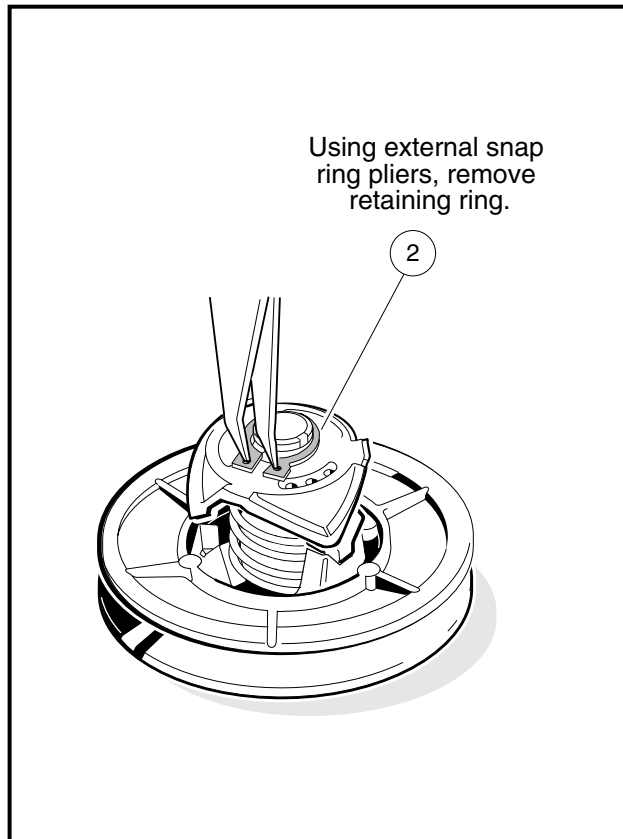

Figure 17-17 Remove Retaining Ring
1. Using external snap ring pliers, remove the retaining ring (2) (**Figure 17-17, Page 17-15**). **See following WARNING.**